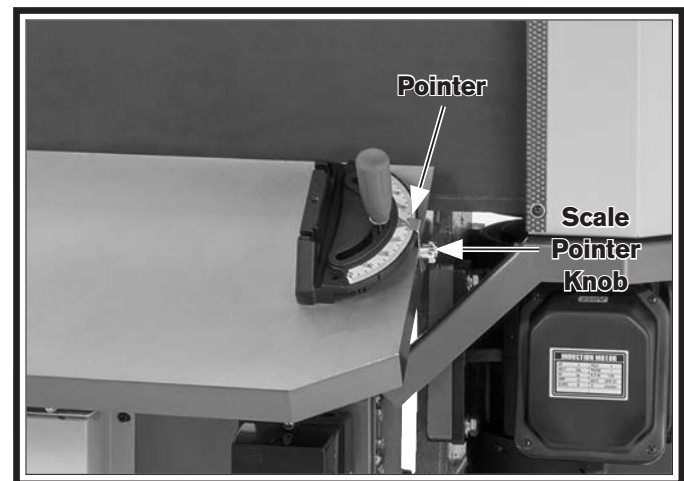

Figure 60. Miter scale pointer components.
5. Loosen scale pointer knob (see **Figure 60**), adjust pointer to 0°, then tighten knob.